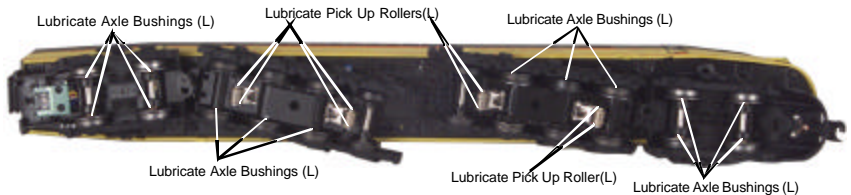
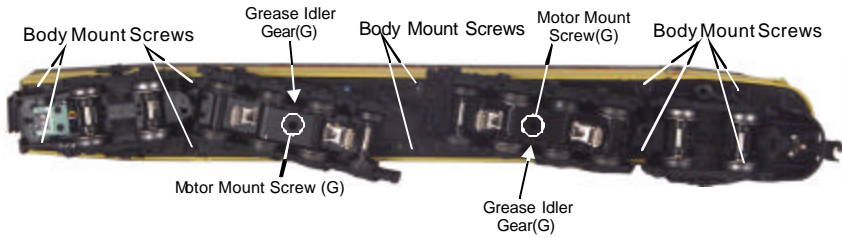

Figure 8. Lubrication Points on the Locomotive
Figure 9. Location of Body Mount Screws and Greasing Points on the Locomotive
1. Although the engine was lubricated at the factory, it is important that you lubricate the chassis before operation. Lightly grease the outside idler and drive gears marked “G” in Fig. 9 on pg. 13 with lithium-based grease to prevent them from squeaking and to prevent premature wear. Use light household oil and follow the lubrication points marked “L” in Fig. 8 on pg. 12. Do not over-oil. Use only a drop or two on each pivot point.
You should regularly lubricate the engine to prevent it from squeaking. Use light household oil and follow the lubrication points marked “L” in Fig. 8. Do not over-oil. Use only a drop or two on each pivot point.
1. To access the gear box, remove the body from the chassis by unscrewing the chassis screws as seen in Fig. 9 on page 13 and lifting the body from the chassis.
2. Once the body is removed, remove the trucks by unscrewing the black Phillips motor mount screw located on the underside of the drive trucks (see Fig. 9 on pg. 13).
Lubricate the outside truck block idler and drive gears with grease. Use the diagram shown in Fig. 9 below as a guide and add grease to the points marked with a "G."